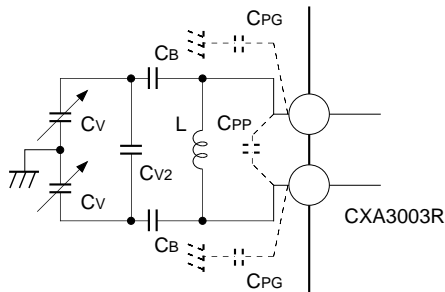

Fig. 13 VCO capacitors
The net capacitance of the tank circuit comprises a varactor diode (CV), an optional scaling capacitor connected (CV2) in parallel with the varactors, two DC blocking capacitors (CB) isolating the DC bias of the varactors from the CXA3003R, and pin-to-pin and pin-to-ground parasitic capacitors (CPP, CPG) (shown in Fig.13). The net tank capacitance is found from